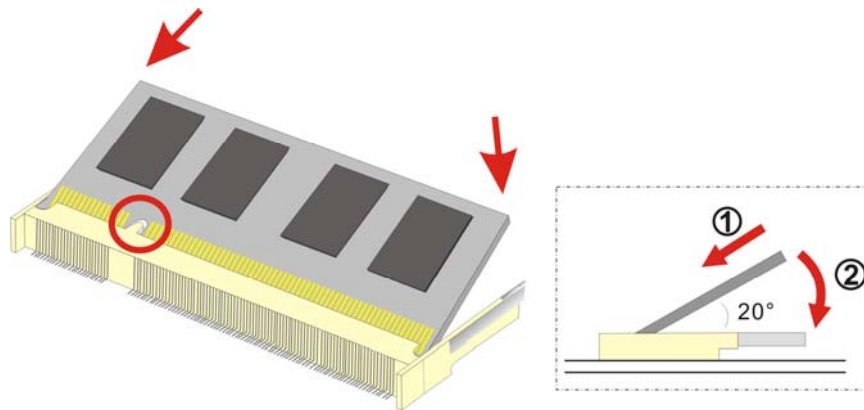

Figure 3-5: DDR2 SO-DIMM Module Installation
Step 5: Install the new SO-DIMM by pushing it into the socket at an angle (**Figure 3-5**).